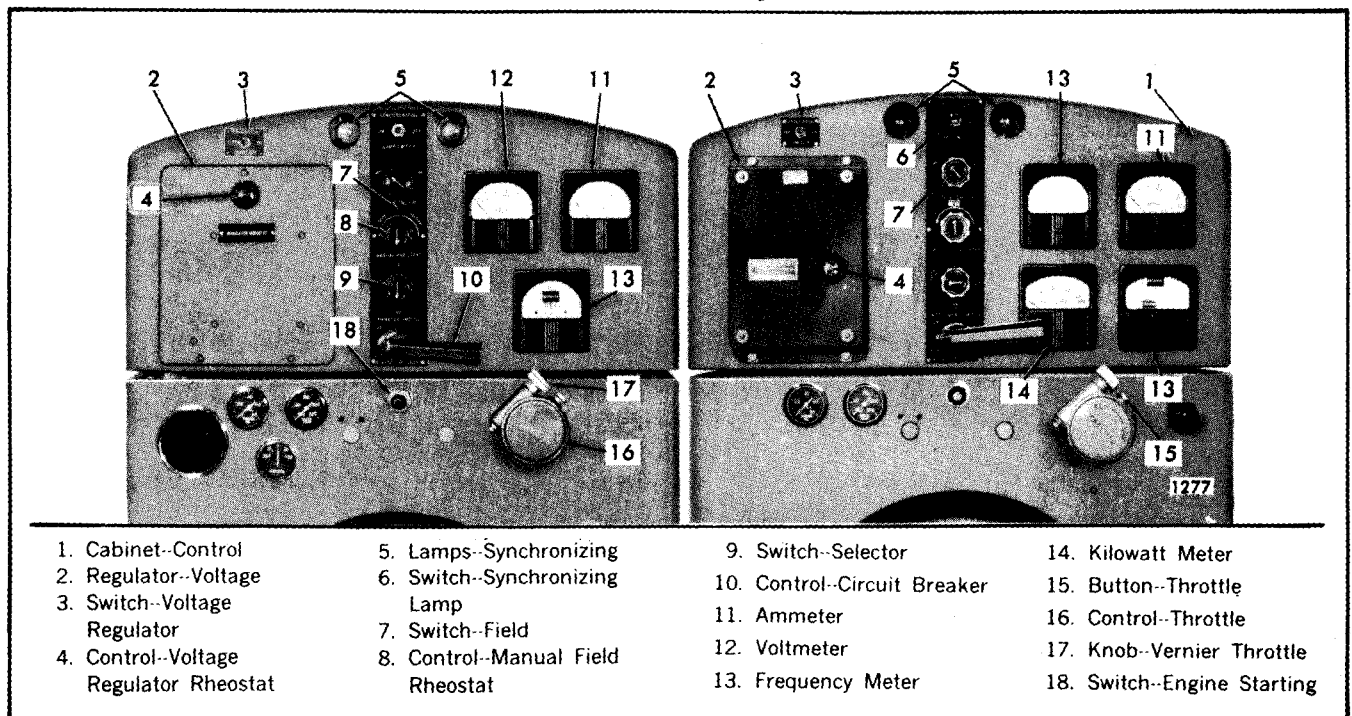

Fig. 1 - Typical Alternating Current Generator Control Cabinets
4. Refer to Fig. 1 and place the circuit breaker (10) in the *off* position.
5. Place the field switch (7) in the *off* position.
6. Place the synchronizing lamp switch (6) in the *off* position.
7. Place the voltage regulator switch (3) in the *off* or *manual* position.
8. Turn the field rheostat knob (8) clockwise to its lower limits.
Press the throttle button (15) and turn the throttle control (16) counterclockwise to a position midway between *run* and *stop* (Fig. 1). Then press the starter button (18) firmly.
1. Bring the engine up to rated speed. Then place the field switch (7) in the *on* position (Fig. 1).
2. Turn the voltage regulator switch (3) *on*.
3. Turn the instrument selector switch (9) to the desired position.
4. Turn the field rheostat (8) slowly in a counterclockwise direction to raise the voltage, while watching the voltmeter, until the rheostat reaches the end of its travel. The voltage regulator will take control of the generator voltage as the field rheostat reaches the end of its travel.
5. If the power generator unit is equipped with a frequency meter, adjust the engine speed with the vernier throttle knob (17) until the desired frequency is indicated on the meter.
6. Adjust the voltage regulator rheostat (4) to obtain the desired voltage.
7. Make sure all power lines are clear of personnel, then place the circuit breaker control (10) in the *on* position.
2. Check the voltmeter (12); the voltage must be the same as the line voltage (Fig. 1). Adjust the voltage regulator rheostat control (4) if the voltages are not the same.
3. Place the synchronizing lamp switch (6), of the generator set to be paralleled, in the *on* position.
4. Turn the vernier throttle knob (17) until both sets are operating at approximately the same frequency, indicated by the slow change in the brilliancy of the synchronizing lamps.
6. The division of the kilowatt load between the alternating current generators operating in parallel depends on the power supplied by the engines to the generators as controlled by the engine governors and is practically independent of the generator excitation. Divide the kilowatt load between the sets by turning the vernier throttle knob (17) counterclockwise on the incoming set and clockwise on the set that has been carrying the load (to keep the frequency of the sets constant) until both kilowatt meters indicate that each set is carrying its proper percentage of the total K.W. load. Refer to Item 8 if the sets are not equipped with kilowatt meters.
9. When the load is 80 per cent power factor lagging (motor and a few lights only), turn the vernier throttle knob (17) on the incoming set until the ammeter on that set reads approximately 40 per cent of the total current load.
10. Rotate the voltage regulator rheostat control (4) on the incoming set (generally counterclockwise to raise the voltage) until the ammeters read the same on both sets.
**NOTE:** If a load was not added during paralleling, the total of the two ammeter readings should be the same as the reading before paralleling. Readjust the voltage regulator rheostat (4) on the incoming set, if necessary.
1. Turn off all of the load on the generator when stopping a single engine unit. Shift the load from the generator when taking a set out of parallel operation by turning the vernier throttle knob (17), until the ammeter (11) reads approximately zero (Fig. 1).
2. Place the circuit breaker control (10) in the *off* position.
3. Turn the field rheostat (8) to the fully clockwise position.
4. Turn the voltage regulator switch (3) to the *off* position.
6. Press the throttle button (15) and turn the throttle control (16) to *stop* to shut down the engine.